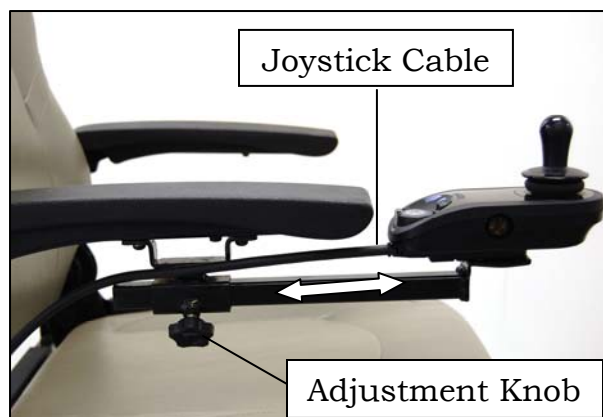

Figure 5
5. Connect the joystick cable. See figure 5 on page 14.
2. Disconnect the cable from the joystick. See figure 5 on page 14.
1. Loosen the joystick adjustment knob. See figure 5.
5. Connect the cable to the joystick, and secure the cable to the joystick bracket clip. See figure 5.